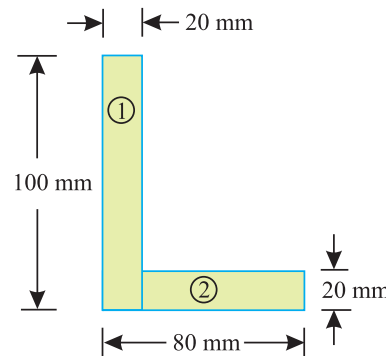

Fig. 6.13.
**Solution.** As the section is not symmetrical about any axis, therefore we have to find out the values of  $\bar{x}$  and  $\bar{y}$  for the angle section. Split up the section into two rectangles as shown in Fig. 6.13.